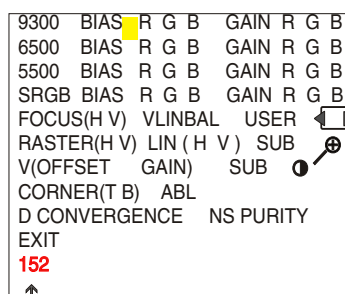

Fig. 2.2
- Press " " button to access/confirm the selection. Bring up the "function adjustment" as shown in Fig. 2.2.
- Press " " or " " button for function selection as shown in Fig. 2.2.